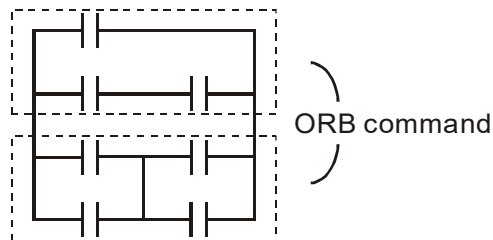

Figure 17-35
**ORB command:** a configuration in which one block is in parallel with one device or block. See Figure 17-35.